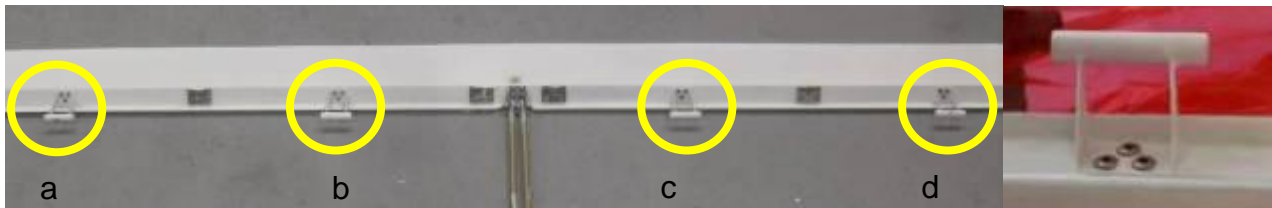

Fig. 3-11
- If the Balancing Weights are installed then before Fiberglass Plates KD 5520 1070 gluing- in they must be cut as per 3.3.4.1 of this SI. The two cases are possible here: four Balancing Weights or two Balancing Weights (see 3.3.5, Fig. 3-11).
Using the drill Ø4.1 mm drill out the rivets of each of the four (Fig. 3-11, items *a*, *b*, *c*, *d*) or two (Fig. 3-11, items *a*, *d*) Balancing Weights from the shortened Trim Tab.
Fill the holes of the removed Balancing Weights “a” and “d” of Fig. 3-11 with bonding paste to be flush with the Trim Tab Wall. Close the holes of the removed Balancing Weights “b” and “c” of Fig. 3-11 with blind rivets RIV-MHD-A2/A2-(4.5-6.5)-4X10.
If balancing weights were installed: fill the holes of the removed Balancing Weights “a” and “d” of Fig. 3-11 with bonding paste until they are flushed with the Trim Tab Wall. Close the holes of the removed Balancing Weights “b” and “c” of Fig. 3-11 with blind rivets RIV-MHD-A2/A2-(2,5-4,5)-4,0X8.